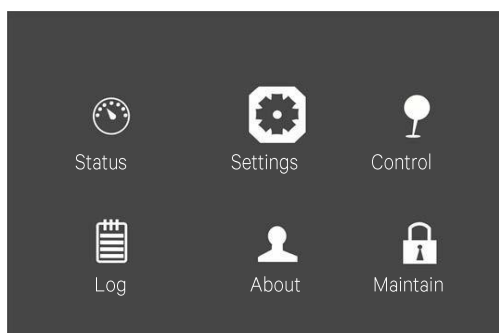

Figure 5-18 Main menu
1. After switching the UPS on, access the main menu screen and , press the or key to move the cursor to select 'Settings'. See Figure 5-18.